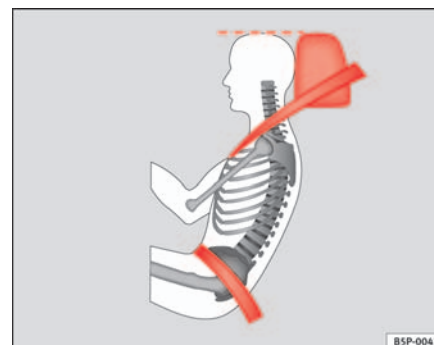

Fig. 13 Correct belt web and head restraint positions, viewed from side ▶
- The lap part of the seat belt must lie across the pelvis, never across the stomach. The seat belt must lie flat and snugly on the pelvis ⇒ page 21, fig. 13. Pull the belt tight if necessary to take up any slack.